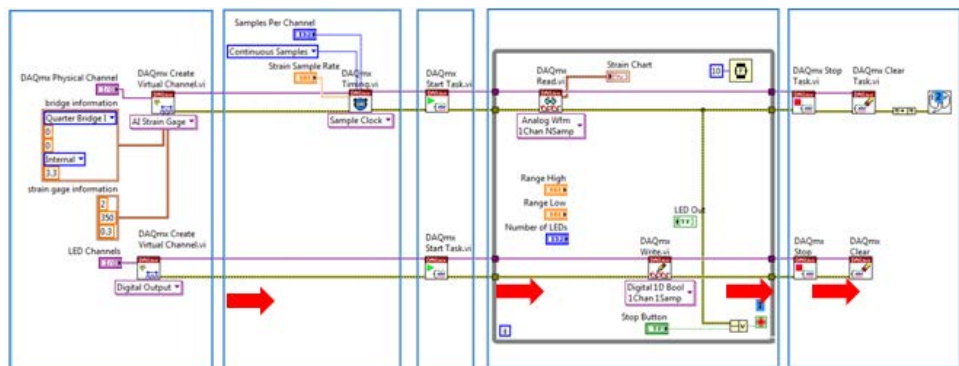

Figure 30. Wiring the task and error wires through each of the DAQmx VIs like in Figure 30.
15. Wire the task and error wires through each of the DAQmx VIs like in Figure 30.